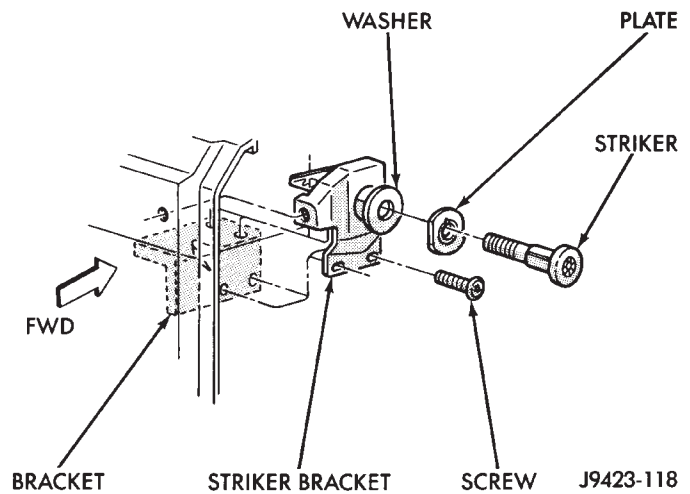

Fig. 86 Tailgate Latch Striker Removal/Installation
(1) Remove the striker from the bracket with a Torx bit (Fig. 86).
(2) Remove the plate, shim and washer from the bracket (Fig. 86).
(3) Remove the retaining screws and the striker bracket from the tailgate reinforcement bracket (Fig. 86).
(1) Position the striker bracket on the tailgate and install the retaining screws in the reinforcement bracket (Fig. 86). Tighten the screws to 11 N·m (96 in-lbs) torque.
(2) Position the washer, shim and plate on the striker bracket (Fig. 86).
(3) Install the striker in the bracket with a Torx bit (Fig. 86). Tighten the striker to 71 N·m (52 ft-lbs) torque while retaining the striker plate in-place.